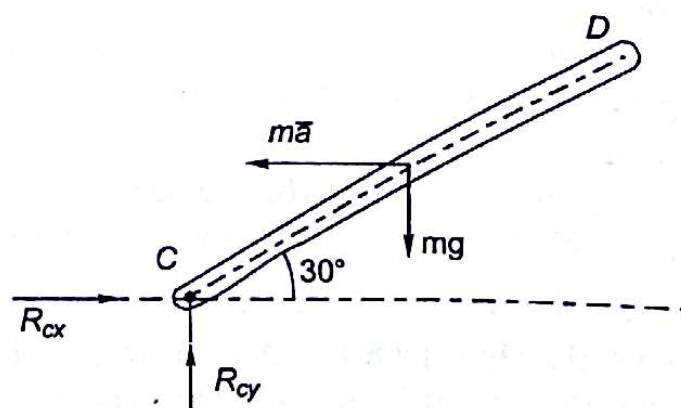

Fig. 15.20
- 15.4 A homogeneous bar CD has a mass of 6 kg and is attached by a frictionless pin at C and rests against a smooth vertical part of the cart. The cart has a mass of 80 kg and is pulled to the right by a horizontal force P as shown in Fig. 15.20. At what value of P will the bar exert no force on cart at D ? Draw a free body diagram of the bar CD .
[Ans: 1461.2 N (Fig. 15.20)].